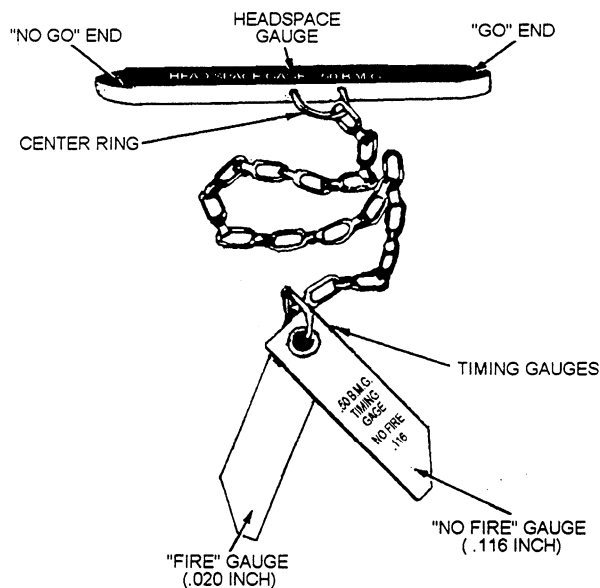

Figure 13-49.—Headspace and timing gauge set.
A special tool is used to check and set the headspace distance. It is called the “headspace gauge” and is part of the headspace and timing gauge set (fig. 13-49). The tool should be kept with the gun at all times. For now, we are only interested in the GO-NO-GO headspace
The timing of the gun is checked with the FIRE (.020 inch) and NO-FIRE (.116 inch) gauges, as shown in figure 13-49. Timing must be checked and/or set (1) each time headspace is adjusted and (2) whenever the